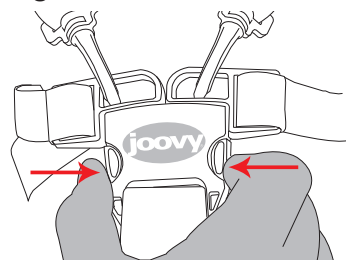

Figure 27
- Unlatch the waist/shoulder buckle by squeezing the latch releases on both sides of the buckle and removing the male ends of each buckle. See Figure 27.